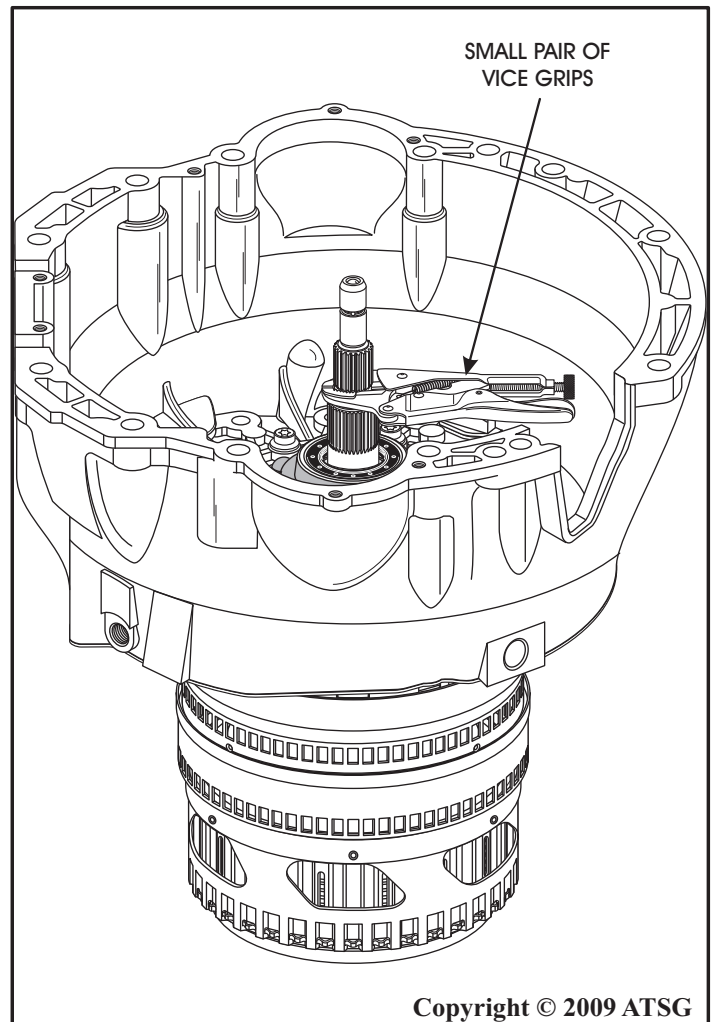

Figure 182
17. Gently roll the complete assembly over on the bench and install a small pair of vice grips on the turbine shaft just above the stator, as shown in Figure 182, carefully so as not to damage the turbine splines.